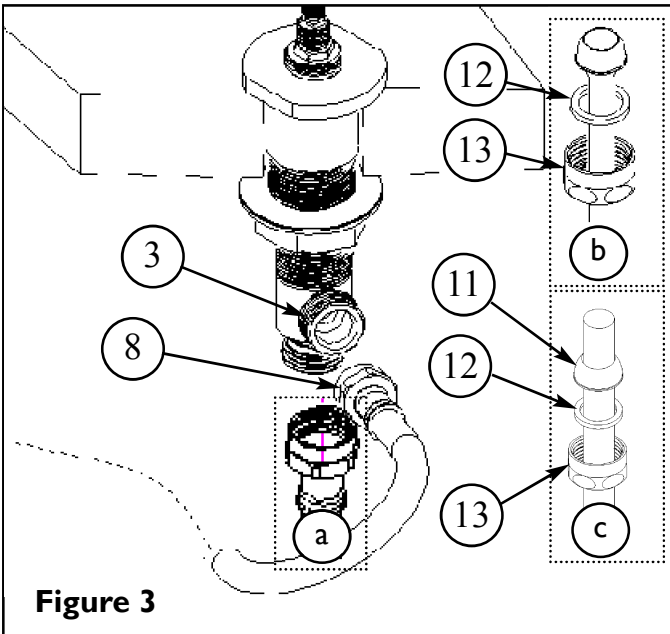

Figure 3
- a. 1/2" IPS flexible riser, discard rubber NOSECONE (11), friction WASHER (12) and coupling NUT (13).
- b. 3/8" or 1/2" O.D. bullnose riser, place friction WASHER (12) and coupling NUT (13) onto bullnose riser.
- c. 1/2" O.D. copper riser, place coupling NUT (13), friction WASHER (12), and rubber NOSECONE (11) onto end of copper riser. **See Figure 3.** Use adjustable wrench to tighten connections. Do not over tighten and take care not to kink copper supply when bending. Use a tube bender and cutter to properly adjust copper supply. Turn VALVE STEM (3) to OFF position.